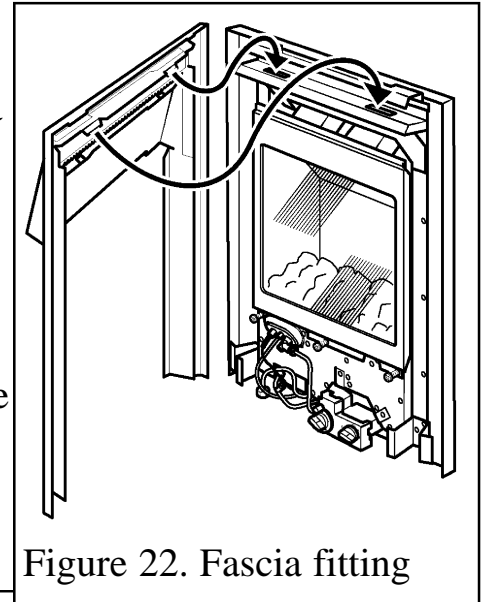

Figure 22. Fascia fitting
- Locate the two lugs at the top of the fascia in the slots in the convection box hood. Swing the bottom of the fascia sides back against the convection box and lower the fascia so that the lugs are fully seated in the slots in the convection box hood (See figure 22).